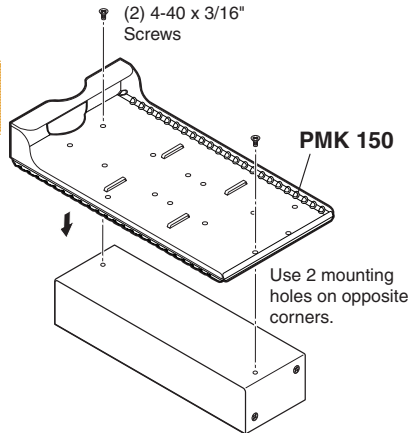

Figure 2. Attaching the Device
1. Place the plate on the base of the device and align holes in the plate with the mounting holes in the device (see figure 2).